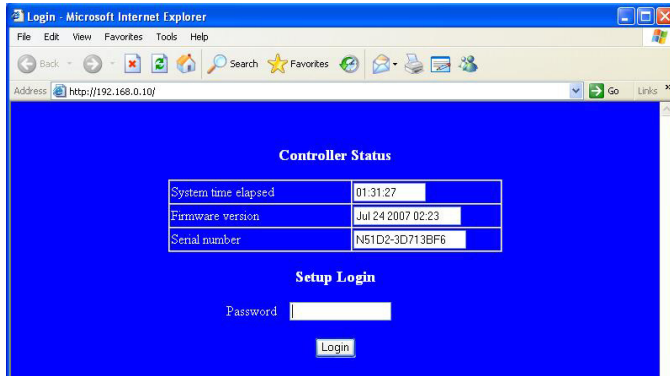

Figure 6
2. In the browser URL field, type the IP address of the *Serial Device Server* directly and press **Enter** (the IP address is what you set using the Device Management Utility). The Controller Status page will be shown, see **Figure 6**.